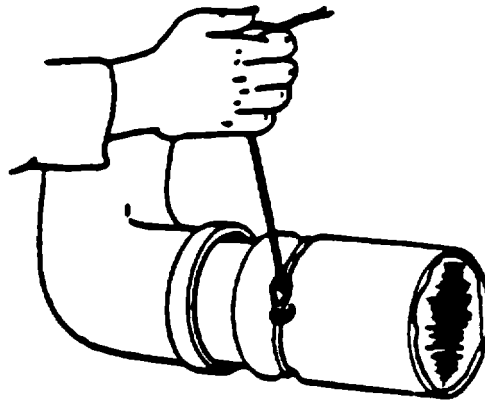

Figure 6-5. Hose Clamp Repair.
- (1) Make a loop in one end of a wire. Twist the wire so that a permanent loop is formed (figure 6-5).